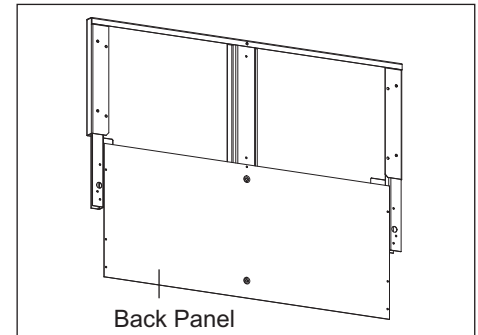

Figure 3
3. Remove backing from double sided tape on center support bracket flanges (See Fig. 3).
5. Slide back panel inside of front panel mounting flanges (See Fig. 3). Align back panel mounting